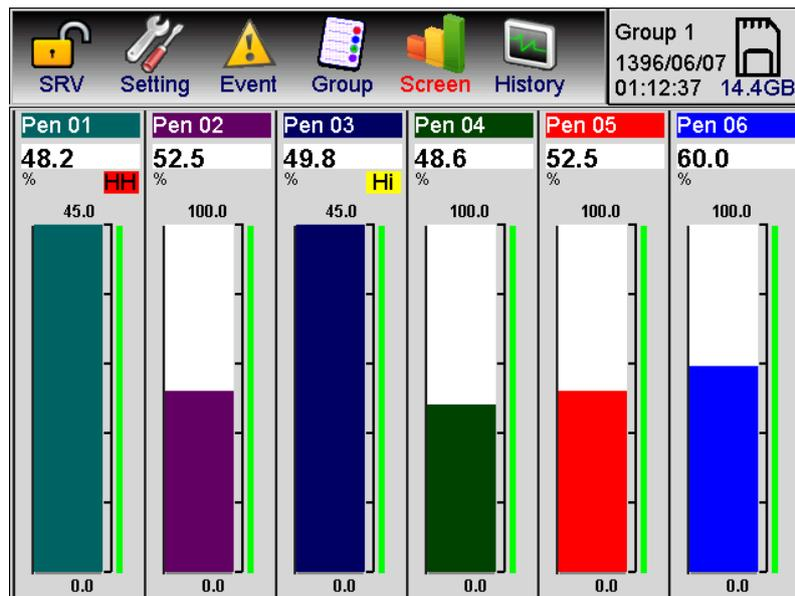

Figure B-3: Displaying alarms in Vertical bar graph
- In vertical bar graph submenu, if there are alarms on any of the pens (as shown in Figure B-3), the alarms are shown yellow in Hi and L modes, and red in HH and LL modes under the numeric part of the pens containing alarms.